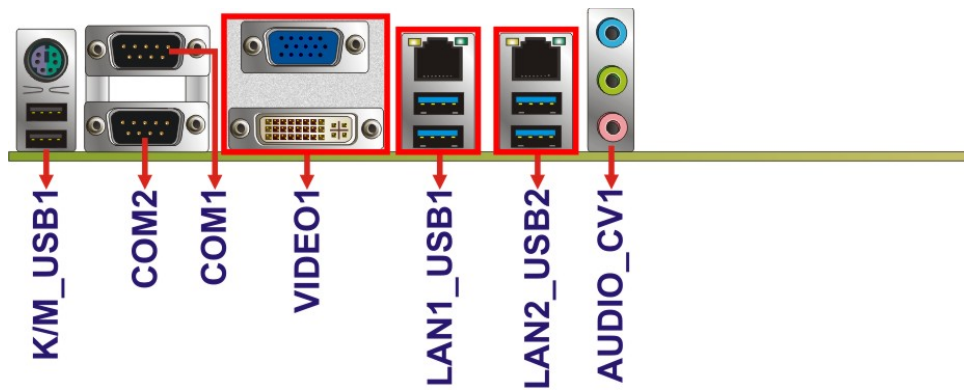

Figure 3-31: External Peripheral Interface Connectors
CN Location: See **Figure 3-31**
- CN Location:** See **Figure 3-31**